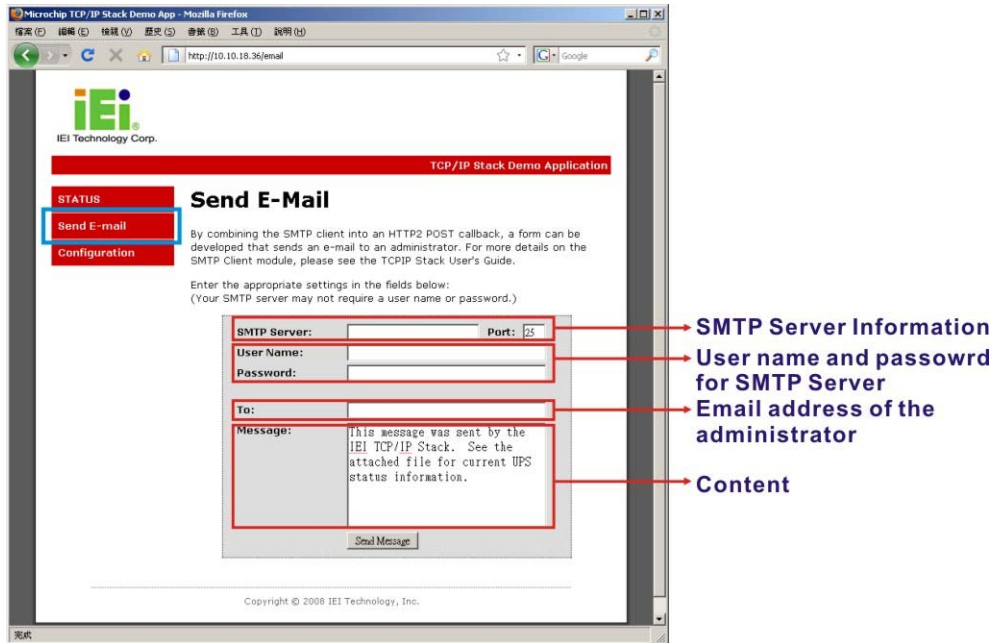

Figure 7-20: Remote Management Web Interface - Send Email
Step 6: To send an email to an administrator through the SMTP server, click **Send E-mail** button on the left. Fill out the information as indicated in **Figure 7-20**. Click the **Send Message** button to send the email.